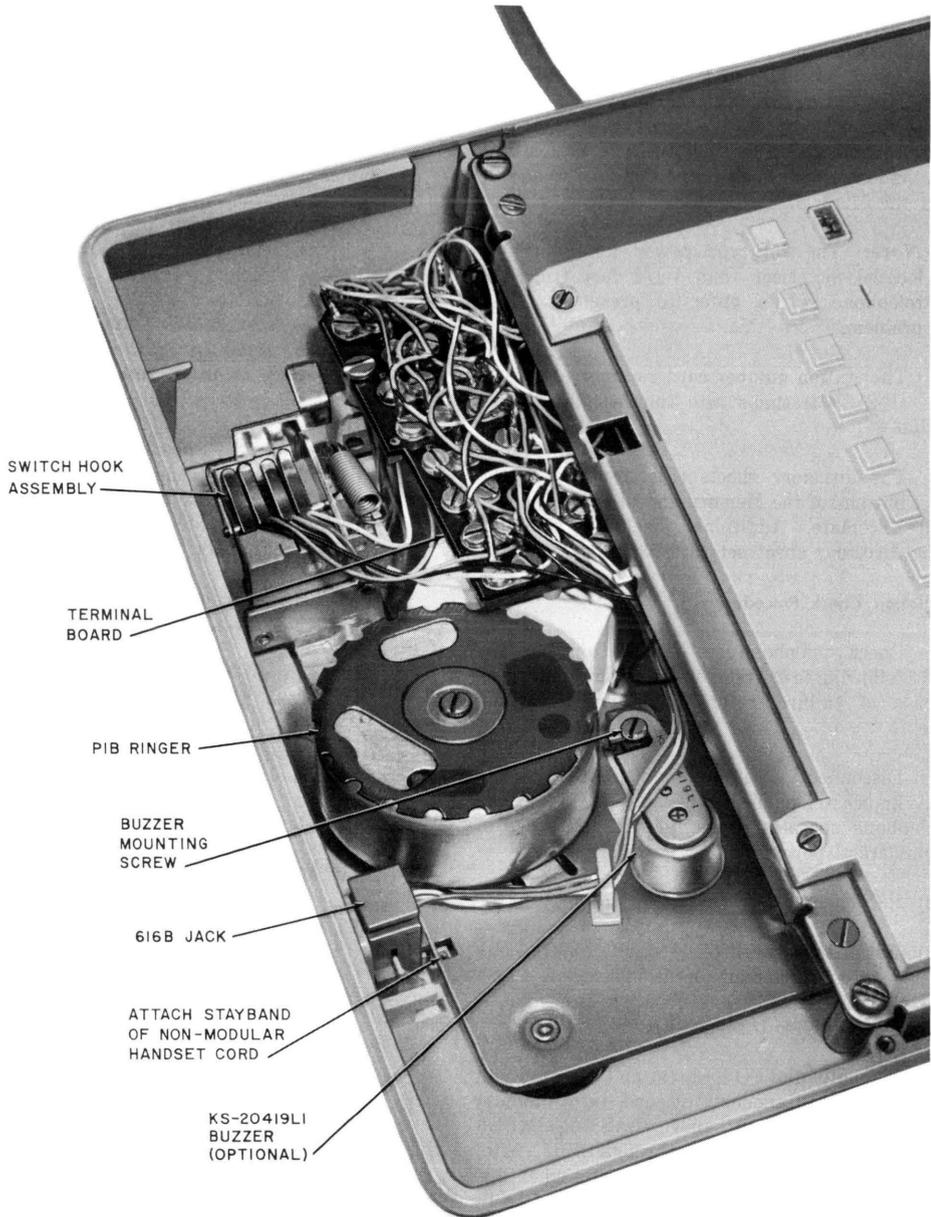
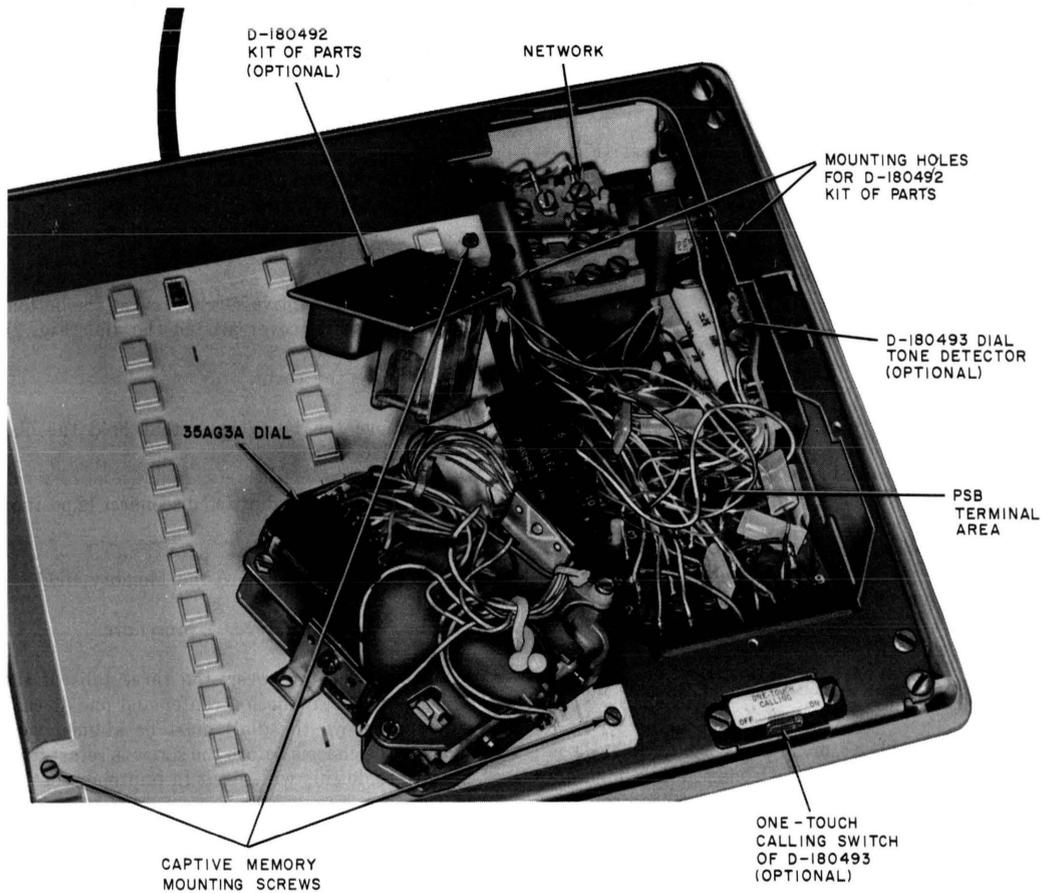

Fig. 3—Telephone Set With Faceplate, Handset, and Handset Cradle Removed
Fig. 4—Telephone Set—Dial Removed to Show Terminal Area
- (1) Remove faceplate (3.18) and place handset aside.
- (2) Remove handset cradle (3.19).
- (3) Remove screw from buzzer mounting bracket, and mount buzzer on bracket as shown in Fig. 3.
- (4) Connect two blue buzzer leads to TB-11 and TB-12 and connect to 10-volt AC external circuit by changing the 623P6 jack connections as follows:
- (a) Under the handset cradle (Fig. 3):
- Terminal board (TB)
- (b) Under the faceplate, inside the set (Fig. 4 and 5):
- Power supply (PSB) terminal area (Fig. 4)
- Network (Fig. 4)
- Options (Fig. 4):